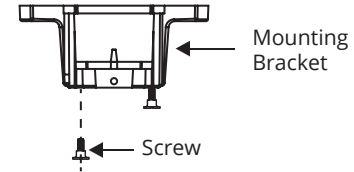

FIGURE 6
2. Remove 1 of 2 screws from the bottom of mounting bracket and save for use in section 9. Loosen the other screw (Fig. 6).